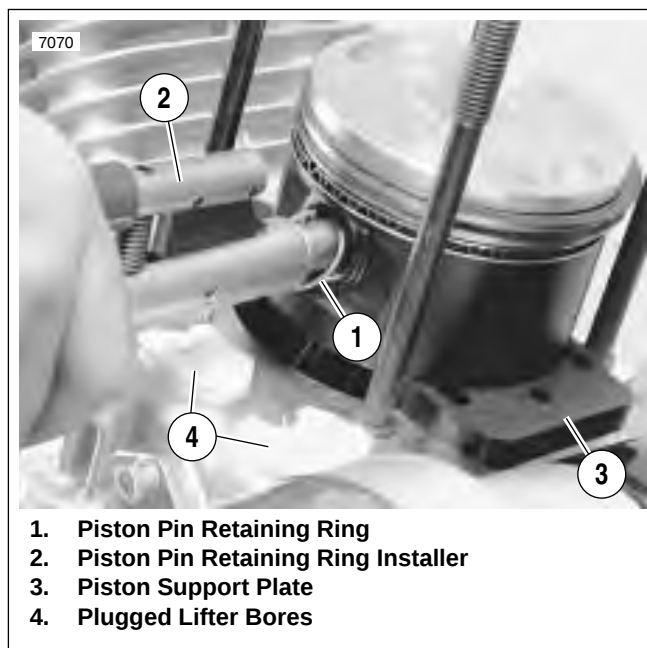

Figure 3-40. Installing Piston Retaining Rings
1. See Figure 3-40. Place PISTON SUPPORT PLATE (3) (Part No. HD-42322) around connecting rod.
4. See Figure 3-40. Install **new** piston pin retaining rings (1) using PISTON PIN RETAINING RING INSTALLER (2) (Part No. HD-34623B). Place **new** retaining ring on tool with gap pointing up. See Figure 3-41.